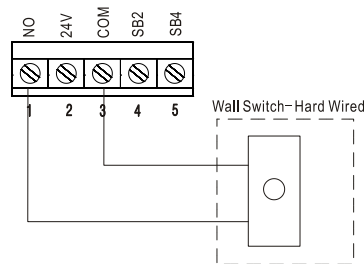

Fig. 15
- d. Normally open momentary contact Wall Switch (Fig.15)